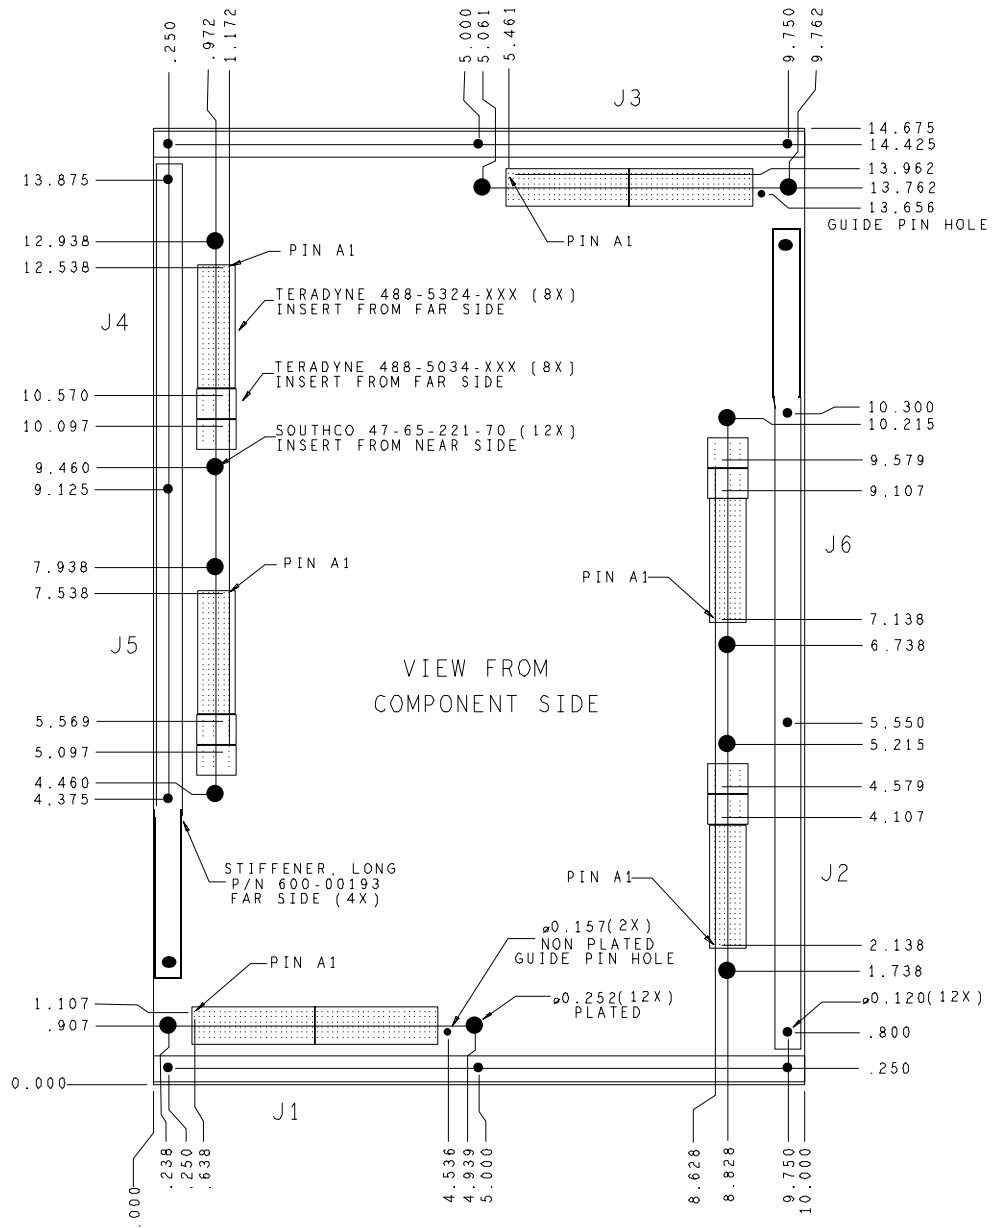

Figure 1: 640-pin Adapter Daughterboard
Figure 1 shows the physical specifications of the Daughterboard from the component side. The Daughterboard is designed to have a footprint area in excess of 10” by 14”, allowing for a multi-chip DUT.
- You must locate the connectors and guide pin holes exactly as shown in Figure 1 on page 12, so that the Daughterboard will fit onto the Adapter.